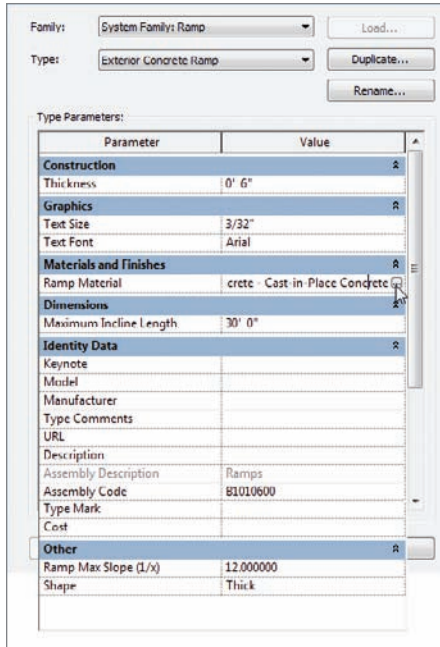

FIGURE 10.83 Modifying the Type Properties
7. For Ramp Material, click the [...] button and specify Concrete - Cast-In-Place Concrete, as shown in Figure 10.83.